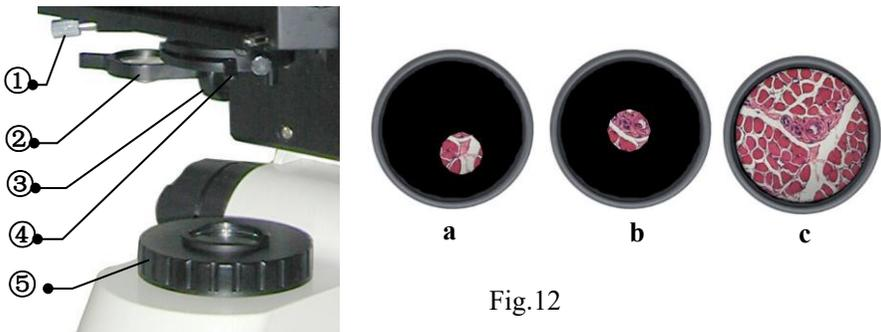

Fig.12
Centering Abbe condenser: Turn 10X objective into optical path, turn down the field diaphragm ⑤ of collector to minimum. Adjust the substage adjustment knob ③ to make the image of field diaphragm clear. If the center of field diaphragm offset the center of eyepieces field of view, like the fig.12-a, you can adjust the Abbe condenser centering screws ① to make collector field diaphragm center and eyepieces center coincide, like the fig.12-b. After adjusting above steps, you can open the field diaphragm for your need, like fig.12-c. when use the microscope, you should adjust the aperture of iris diaphragm ④ according to the numerical aperture of objective. Using 5X or lower magnification objective, you should turn the accessional condenser ② into optical path to make the illumination of field uniformity. See fig.12.